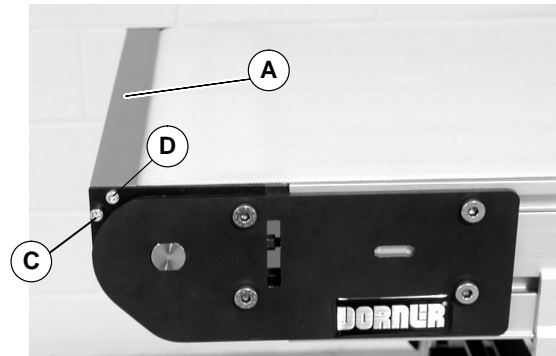

Figure 31
Periodically, remove two screws (C and D of Figure 31) on each side of conveyor and remove transfer plate (A).